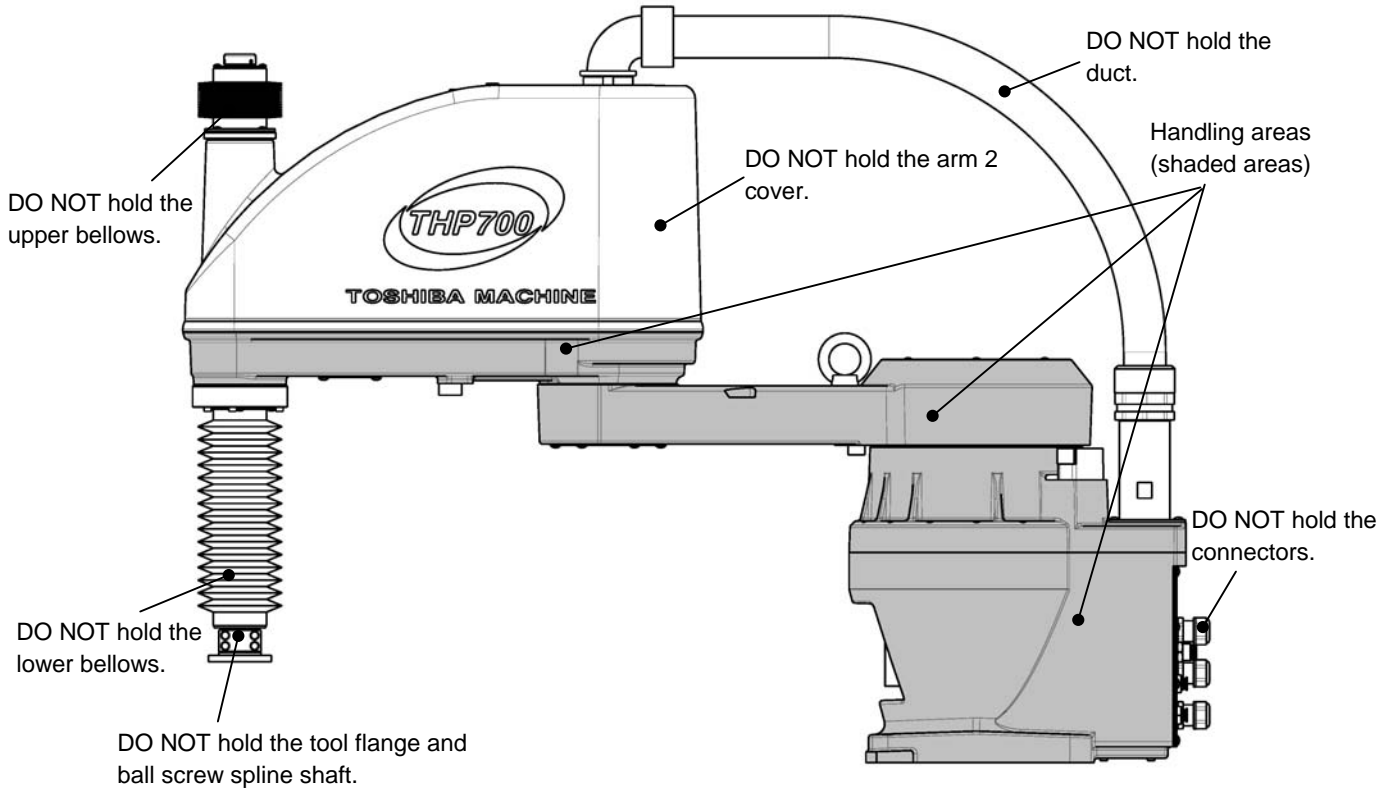

Fig. 2.2 Robot handling prohibited areas
- When lifting up the robot by workers, hold the shaded locations by hands, as shown in Fig. 2.2. If the ball screw spline shaft is held by hands, an unusually large force is exerted, resulting in a malfunction.
- The work should always be performed by two (2) or more workers.